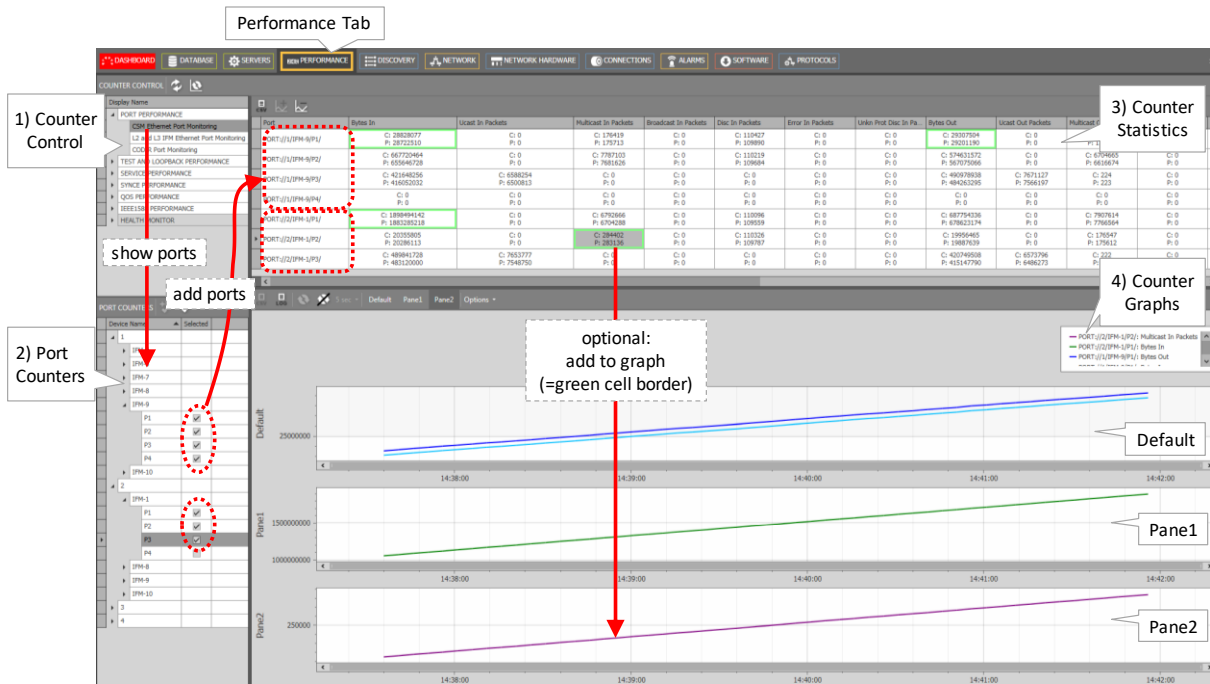

Figure 34 CSM Ethernet Port Monitoring
2. Click CSM Ethernet Port Monitoring, see Figure 34;